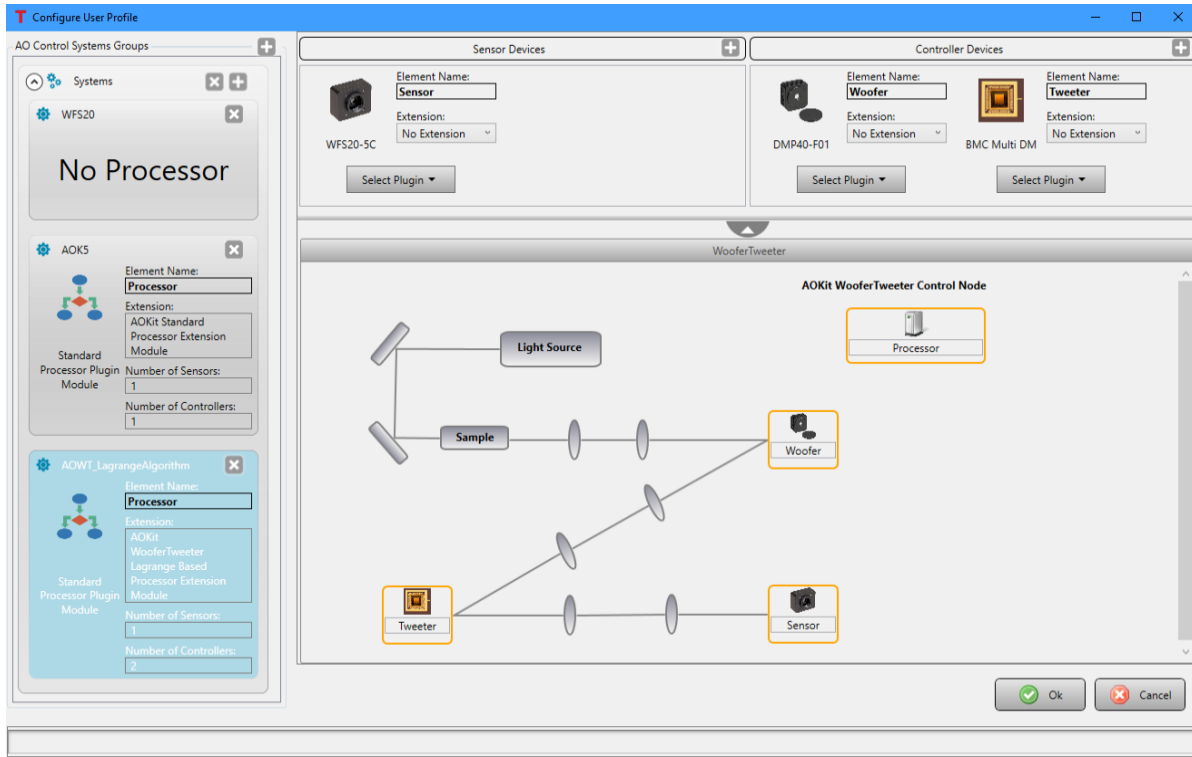

Figure 88 Configure User Profile window with newly created AOWT_LagrangeAlgorithm; the sensor and two controllers are selected.
6. Repeat step 5 to select a controller device for Tweeter element. In this example the BMC Multi DM controller module is selected (Figure 88).